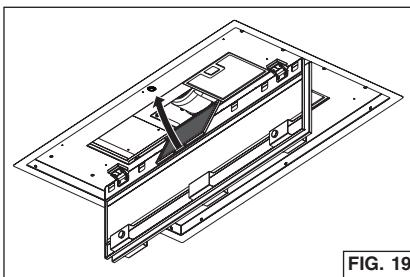
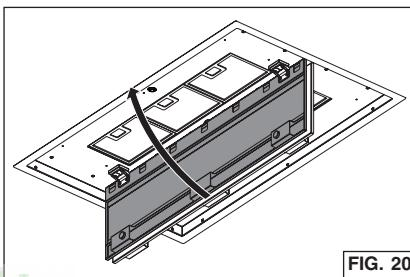

FIG. 19
FIG. 20
1. Pull down both closure panels as shown. Fig. 19 and Fig. 20.